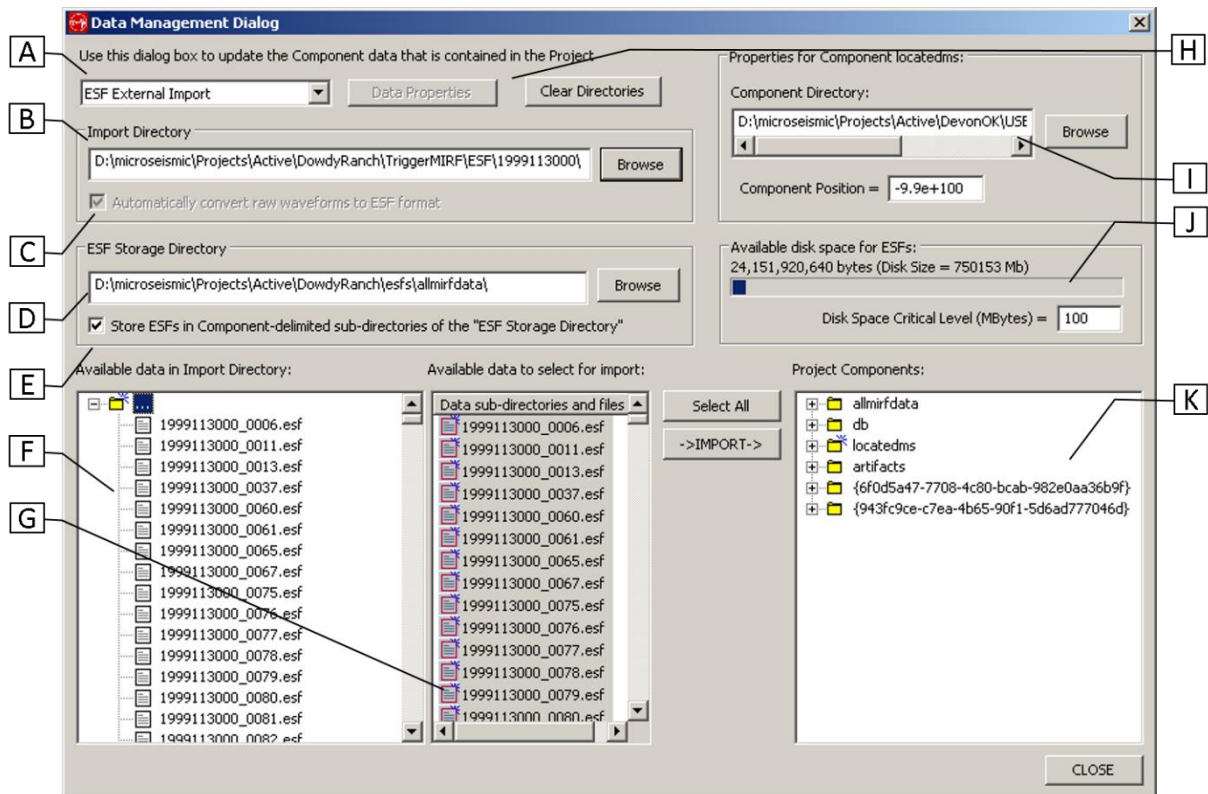

Figure 5-27: The InSite Data Management Dialog
This Dialog box (Figure 5-27) allows the user to import data into InSite. A number of data formats (Table 3.1) are currently recognised.
1. Choose what type of data (Table 5.4) is to be imported and select this in the Data Type Drop-down Box. Complete the Data Properties Dialog if applicable for the data type used to make additional settings. (Figure 5-27)